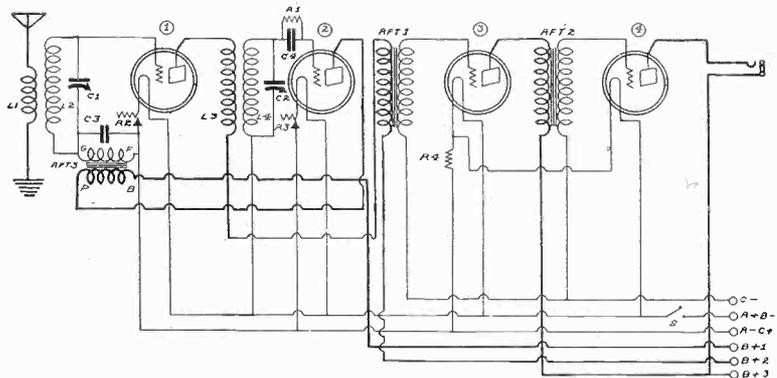

FIG. 572
Fig. 572 shows this diagram. C4 is the device which makes the tube oscillatory, it having a capacity of 50 mmfd. The loop is tapped in the center.
(1)—Fig. 572 shows the circuit diagram of such a receiver.